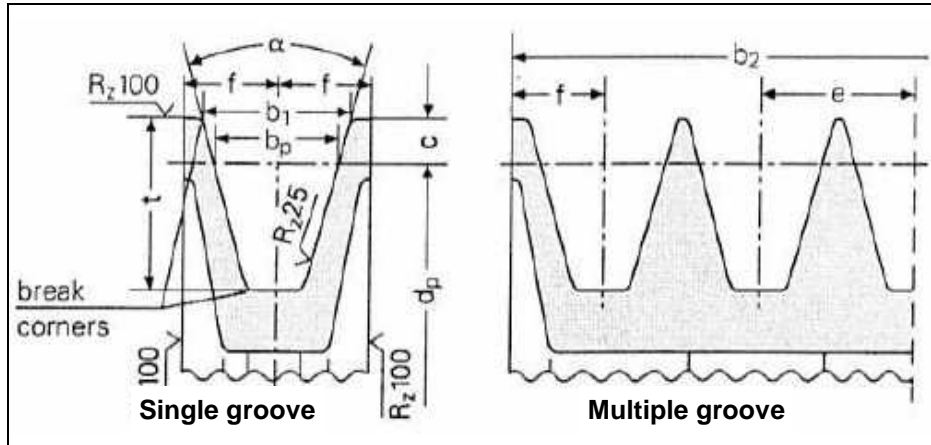

fig. 8
- a) Use pulleys with v-belts with the size of the groove required/recommended by the manufacturer of belt used. In the absence of directions, follow fig.8 and the table in fig.9.